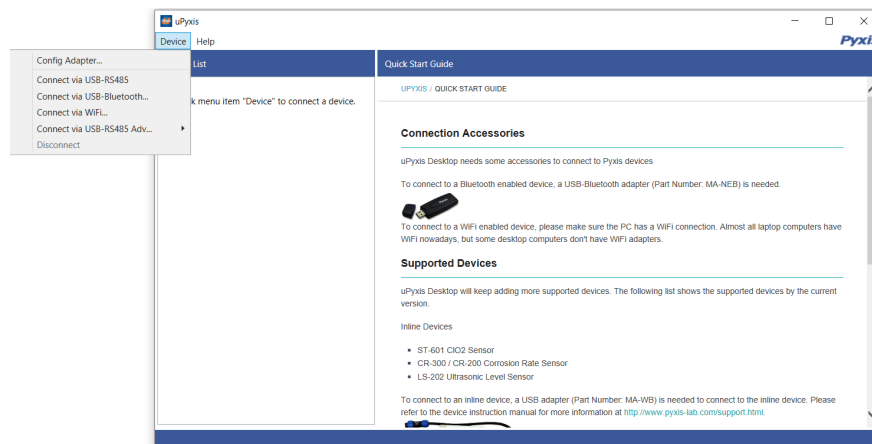

Figure 19.
4. On **uPyxis®** Desktop App, click Device → **Connect via USB-Bluetooth** (Figure 19).
5. If the connection is successful, the SP-395 and its Serial Number (SN) will be displayed in the left pane of the **uPyxis®** window.